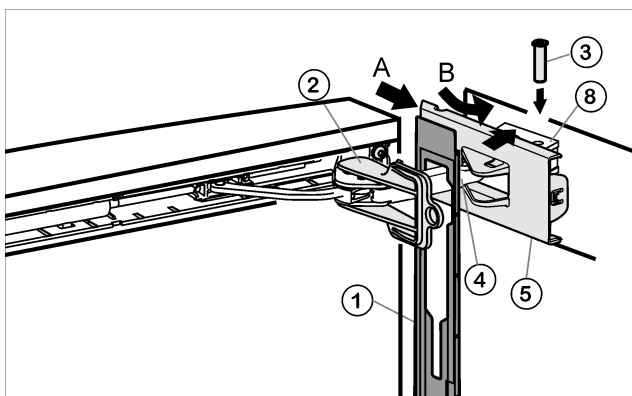

Fig. 17
- ▶ Hook panel *Fig. 17 (1)* into the damper bracket *Fig. 17 (4)* such that the detent hooks are pointing inwards and the front side is facing the appliance.
- ▶ Push on cover *Fig. 17 (5)* from the outside (A) and pivot over the bearing part *Fig. 17 (8)* (B).
- ▶ Place cover *Fig. 17 (5)* on top and allow to snap into place until the first notch.
- ▶ Pull damper bracket *Fig. 17 (4)* towards bearing bracket and insert bolt *Fig. 17 (3)* from above such that the square is resting in the recess.
- ▶ Now snap cover *Fig. 17 (5)* completely into place on the bearing part *Fig. 17 (8)*.
- ▶ Remove locking device *Fig. 17 (2)* by twisting it.
- ▶ Snap panel *Fig. 17 (1)* into place on the door.